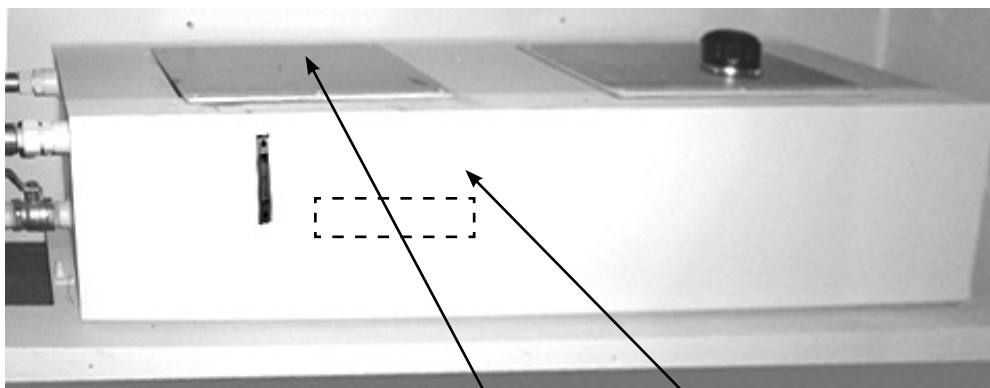

Fig. 6.6
3. Screw the new filter into its place in the tank and replace the cover. (Fig 6.6)